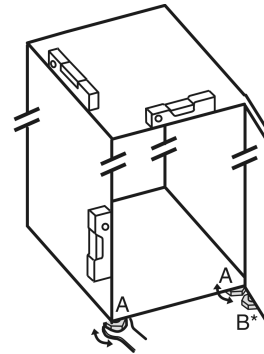

Fig. 4
- ▶ Unscrew the adjustable feet Fig. 4 (A) using the open-end wrench provided and a spirit level until the appliance is firmly aligned and level.
- ▶ Unscrew the adjustable foot Fig. 4 (B) at the swap bearing block using the open-end wrench provided until it rests on the floor.
- ▶ Turn the adjustable foot Fig. 4 (B) another 90°.